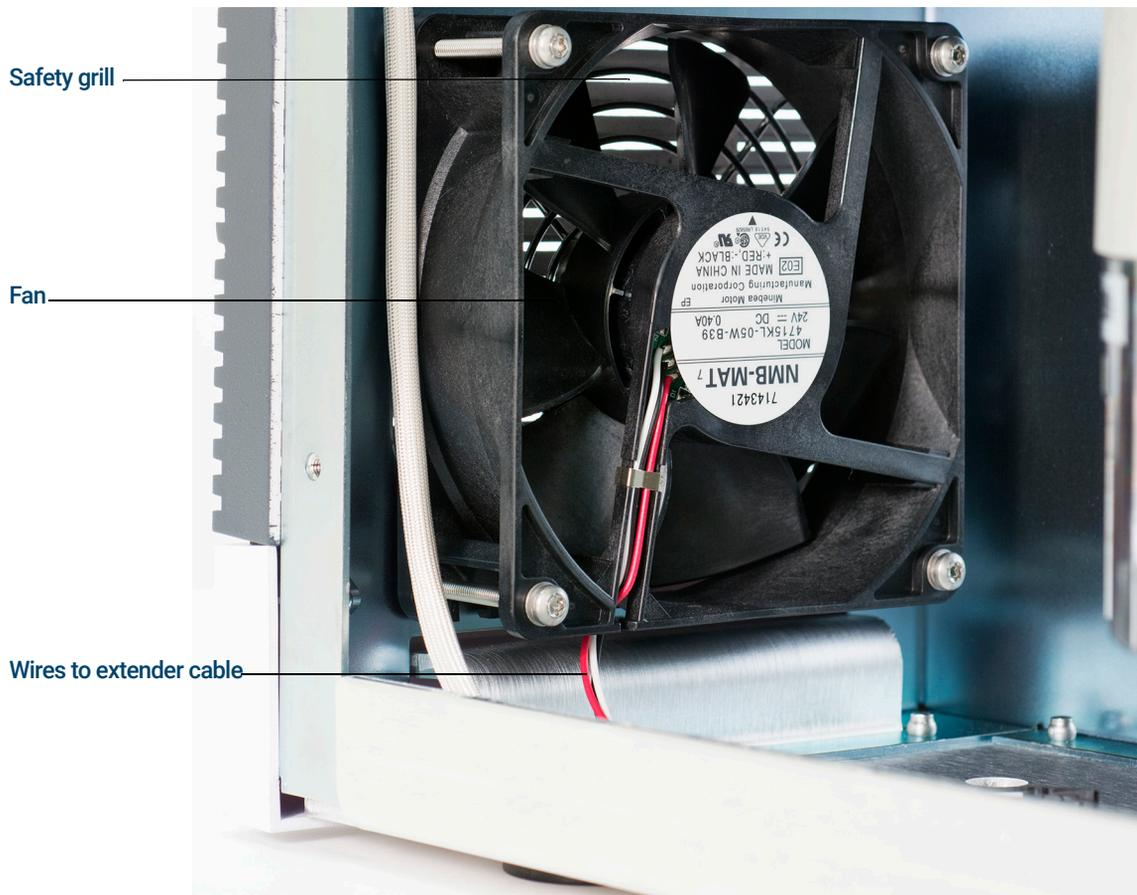

Figure 13. Replacing the turbo pump fan
- 4 Disconnect the fan wiring from the extender cable. (See **Figure 13** on page 105.)